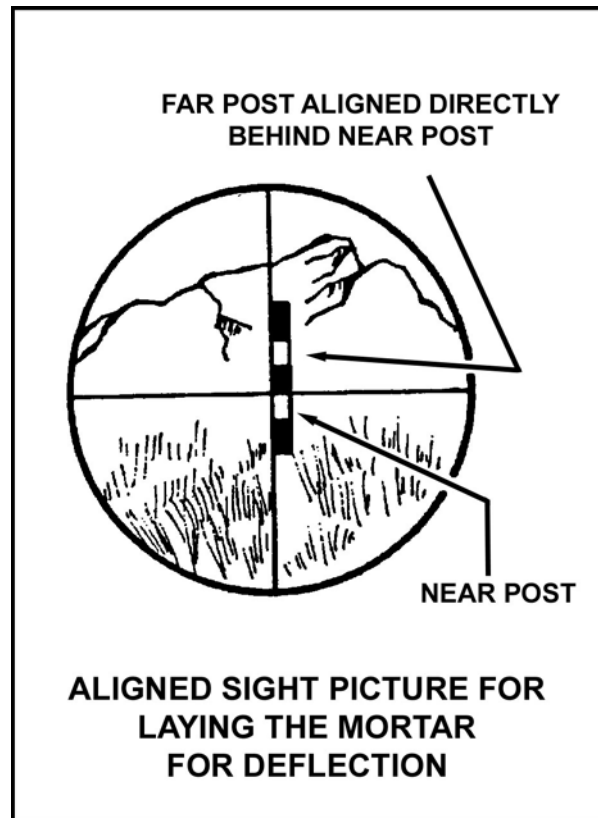

Figure 1. Sight Picture
- d. When the gunner is satisfied with his sight picture (Figure 1) he announces, "UP."